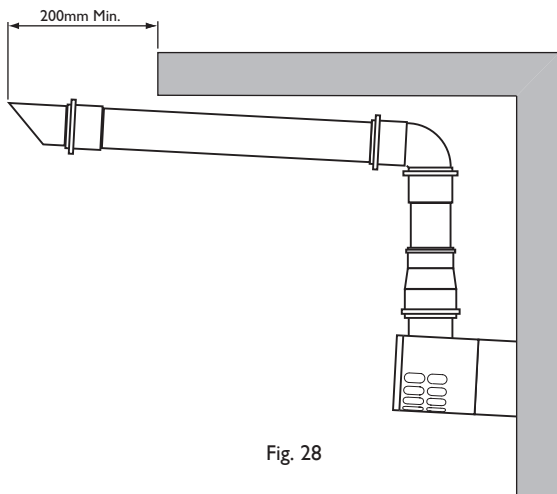

Fig. 28
22. When the plume outlet is positioned under a balcony or other projection (Fig. 28) it must protrude at least 200mm (it is not necessary to extend it further than this). Also it must be suitably supported.